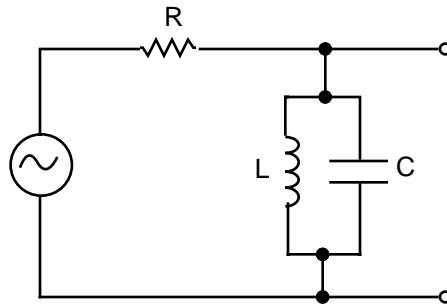

Fig 3.2
Construct the parallel resonant (tank) circuit of Fig. 3.2.
Drive the circuit of Fig. 3.2 with a square wave and carefully observe the frequency response of the output voltage. You will get peaks in the output sine wave response at the circuit's resonant frequency and at certain lower frequencies that have harmonics at the resonant frequency. This is a sort of backward Fourier analysis. The first few terms of the Fourier expansion of a square wave should be roughly related to the peak frequencies and amplitudes. Try using the sweep generator to display a series of peaks at once.
- Calculate the impedance of the LRC circuit. of Fig. 3.2